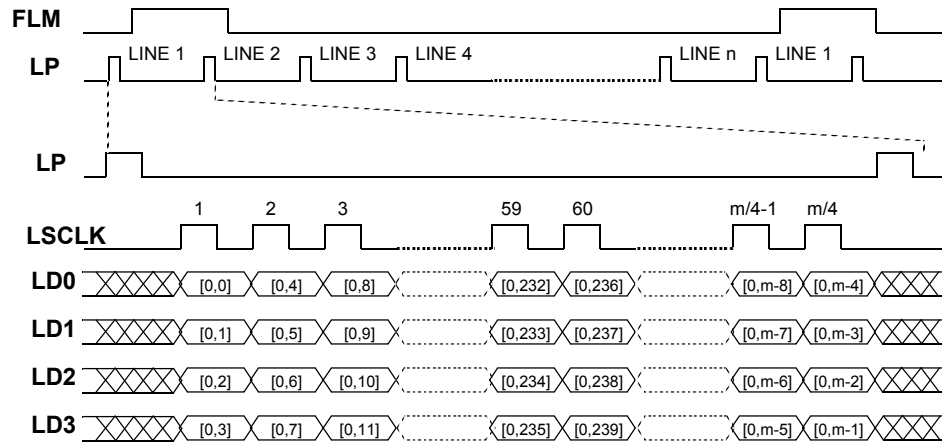
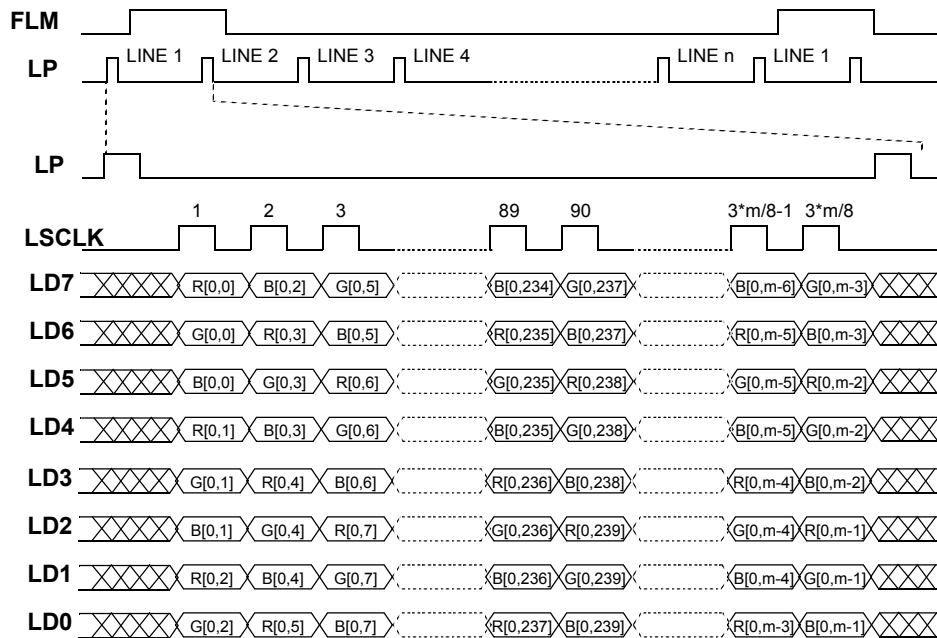

Figure 17-10. LCDC Interface Timing for 4-bit Data Width Gray-Scale Panels
Figure 17-11. LCDC Interface Timing for 8-Bit Data Passive Matrix Color Panels
Figure 17-10 shows the LCD interface timing for monochrome panels and Figure 17-11 shows the LCD interface timing for passive matrix color panels. Signal polarities are shown positive, however it can be reversed by clearing the bits in the Panel Configuration Register (PCR). The data bus timing for passive panels is controlled by the shift clock (LSCLK), line pulse (LP), first line marker (FLM), alternate crystal direction (ACD), and line data (LD) signals. Operation of the panel interface is accomplished in the following steps:
The LD bus width is programmable to 1, 2, 4, or 8 bits in monochrome mode (the COLOR bit in the Panel Configuration register is set to 0). Data is justified to the least significant bits of the LD [15:0] bus. Passive color displays use a fixed 2-2/3 pixels of data per 8-bit vector as shown in Figure 17-11 on page 17-13.